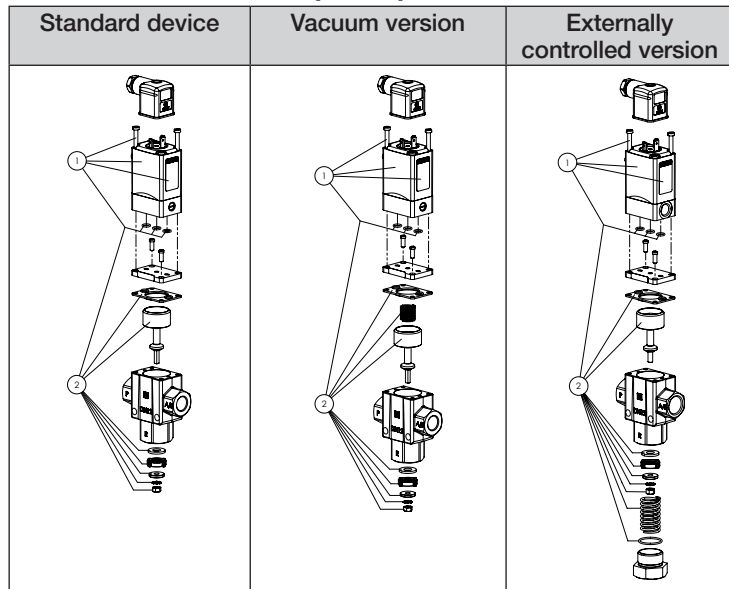

Fig. 2: Pilot control with solenoid (①), wearing part set (②)
pilot control with solenoid (“Fig. 2” pos.①) or the **wearing part set** (“Fig. 2” pos.②)